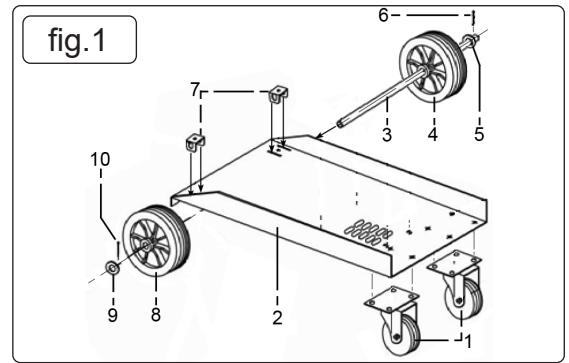

fig.1
4.1. ASSEMBLING THE WHEELS: (Refer to fig.1) The wheels are more easily assembled with the welder placed upside down on a smooth non-abrasive surface. The welder should be turned over by two people as it is very heavy.